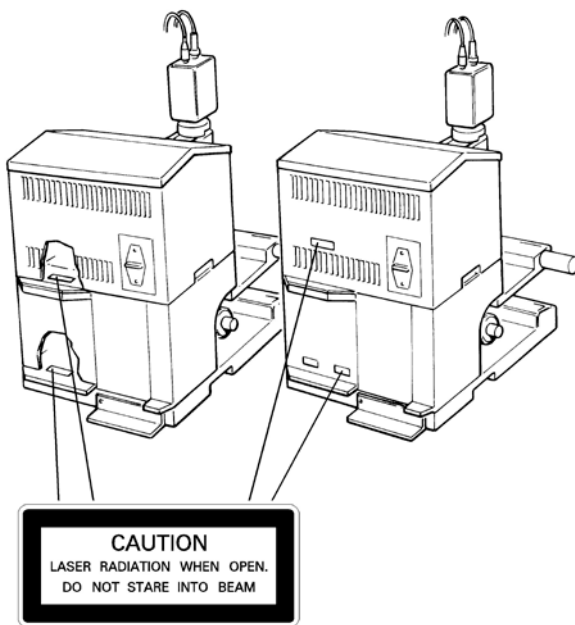
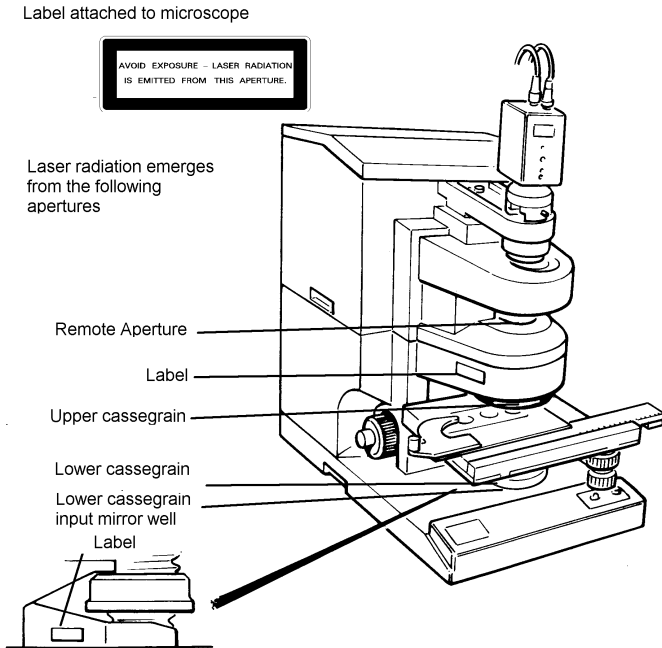

Figure 1 Position of laser radiation warning labels
Figure 2 Position of laser radiation warning labels and laser apertures
- Between the lower cassegrain input mirror (mounted beneath the lower cassegrain mirror) and the upper cassegrain mirror when the microscope purge covers are displaced or removed. In Transmittance mode, the laser radiation propagates upwards from the lower cassegrain input mirror. In Reflectance mode, the laser radiation propagates downwards from the upper cassegrain mirror; a sample reflects the radiation upwards, along the same path (see Figure 2 on page 25).
- At the Remote Aperture, between the upper cassegrain mirror housing and the detector mirror housing, when the aperture disc is removed. The laser radiation propagates upwards, through the Remote Aperture (see Figure 2 on page 25).
This manual contains information and warnings that you must follow to make sure that you use the microscope safely. Warning labels are fixed to the microscope in the locations shown on the following pages (Figure 1 and Figure 2). Class II/Class 2 laser warning labels are attached to the Model 1600/Spectrum BX/Spectrum RX version of the microscope. No laser warning labels are required on the Class I / Class 1 Spectrum GX, Spectrum One and Spectrum 100 Series versions of the microscope. The laser apertures are shown in Figure 2 and described in *Accessible Levels of Laser Radiation* on page 23.